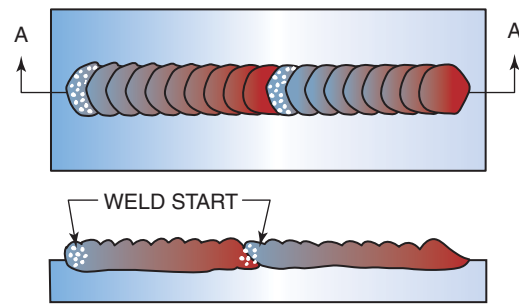

Figure 9.2 Clustered porosity
- Clustered porosity is most often caused by improper starting and stopping techniques, Figure 9.2.